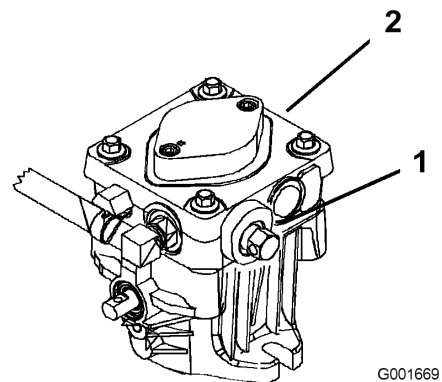

Figure 24
2. Rotate the by-pass valves counterclockwise 1 turn to push. This allows hydraulic fluid to by-pass the pump enabling the wheels to turn (Figure 24).
Rotate the by-pass valves clockwise 1 turn to operate machine (Figure 24).